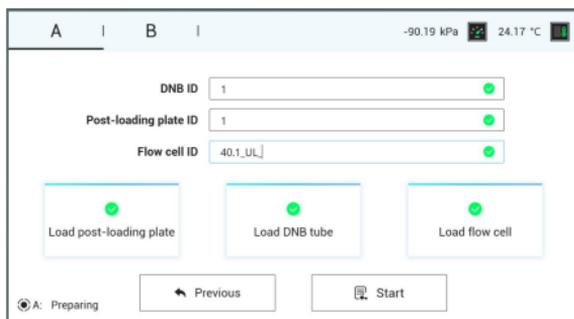
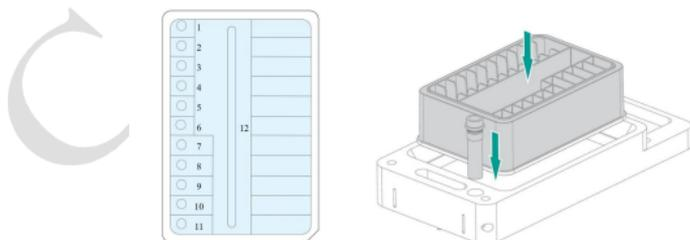
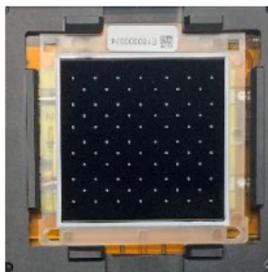

Figure 5-3: MGIDL-T7 Information Input Interface
Figure 5-4 Post-loading Plate
Figure 5-5 Flow Cell
- Click on “Loading” and enter the information input interface, see Figure 5-3:
- Click on the text box behind “DNB ID” (see Figure 5-3), align the 0.5mL micro tube containing DNB loading mix to the RFID scanning area and ID information will appear in the text box. Place the 0.5mL micro tube containing DNB loading mix into the DNB tube hole (see Figure 5-4), the screen will prompt that the DNB tube is loaded.
- Click on the text box behind “Post-loading plate ID” (see Figure 5-3), align the post load plate to the RFID scanning area and ID information will appear in the text box. Remove the seal of the post load plate, add 4 mL of 0.1M NaOH into well No.11 (see Figure 5-4). Refer to section “9.3 Prepare wash reagents” for the preparation of 0.1M NaOH. Place the prepared post load plate on the plate tray of MGIDL-T7 (see Figure 5-4), the screen will prompt that the post load plate is loaded.
- Click on the text box behind “Flow cell ID” (see Figure 5-3), align the flow cell to the RFID scanning area and ID information will appear in the text box. Hold both sides of the flow cell, upwardly align the locating bulge on the flow cell to the locating groove on the flow cell stage. Gently press down the edges of the flow cell (see Figure 5-5).